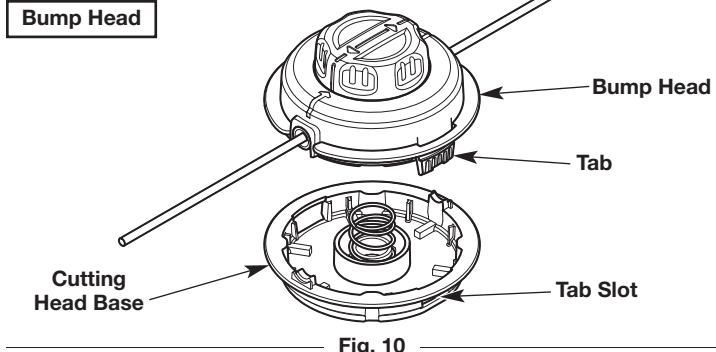

Fig. 10
2. Disconnect the bump head from the cutting head base: Firmly press a tab on the bump head (Fig. 10). Use your thumb. If necessary, use a flat-head screwdriver:
- c. While holding the screwdriver in place, gently twist the screwdriver to unlock the tab from the tab slot (Fig. 10).
3. Align the tabs on the bump head with the tab slots on the cutting head base (Fig. 10). Push the bump head onto the cutting head base until both tabs snap into place.